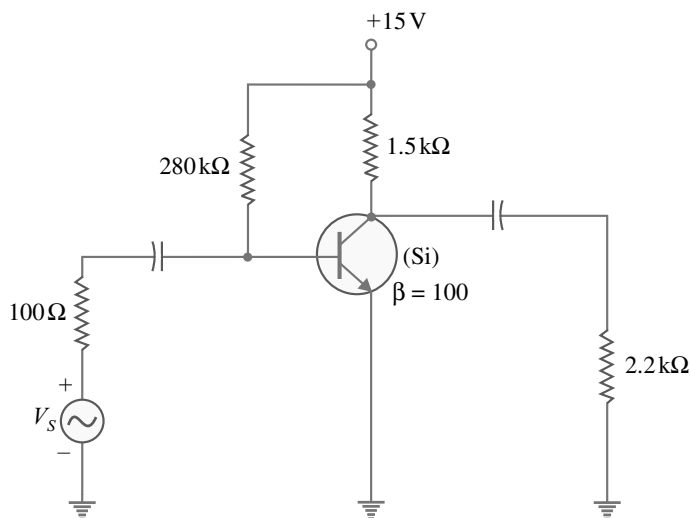

Fig. 10.9
**Example 10.7.** Find the maximum peak-to-peak a.c. output voltage that the amplifier in Fig. 10.9 can produce without causing clipping at the output.